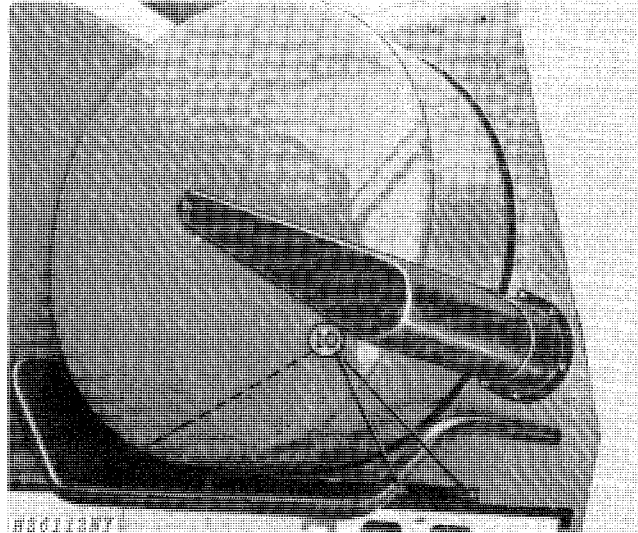

Fig. 28-Attaching Mud Fender (Outside)
10. Attach mud fender to screen door with three 1/4 x 5/8-inch self-tapping screws and three 9/32 x 5/8 x .060-inch washers (Fig. 28).